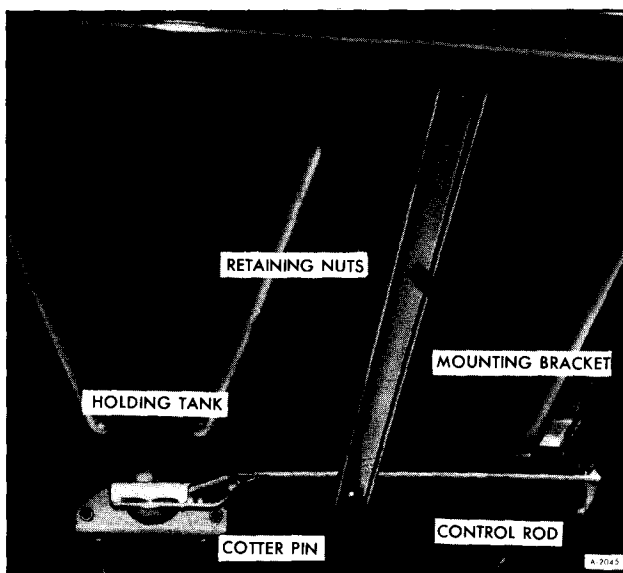

Figure 2—Holding Tank Mounting
5. Remove cotter pin from valve rod and remove control rod (See figure 2).
8. Remove two retaining nuts from each of the two mounting brackets (See figure 2).